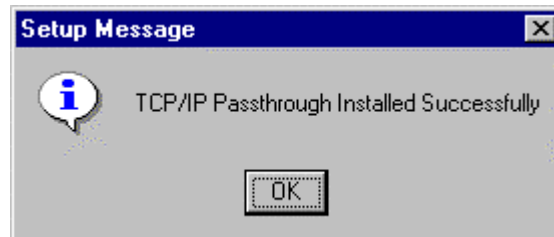

Figure 9-6. Setup Message - Install Successful
4. The system will proceed to install the software. During the install a progress bar will be displayed. At the end of the install a Setup Message box will display indicating successful installation (Figure 9-6). Click **OK** to continue.